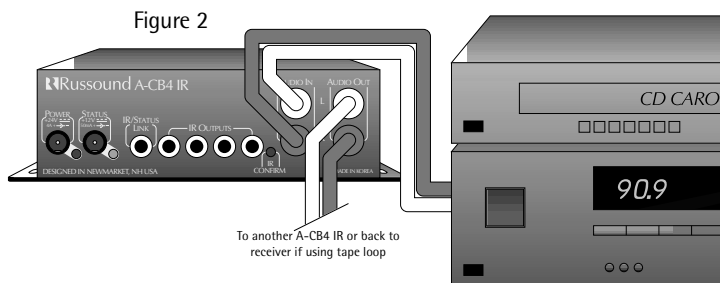

Figure 2
- 3) A line-level audio source can be connected to the audio input jacks on the front of the A-CB4 IR. This audio source will be pre-amplified by the A-CB4 IR and sent to each A-BUS amplified module. Audio source connection is shown in Figure 2.